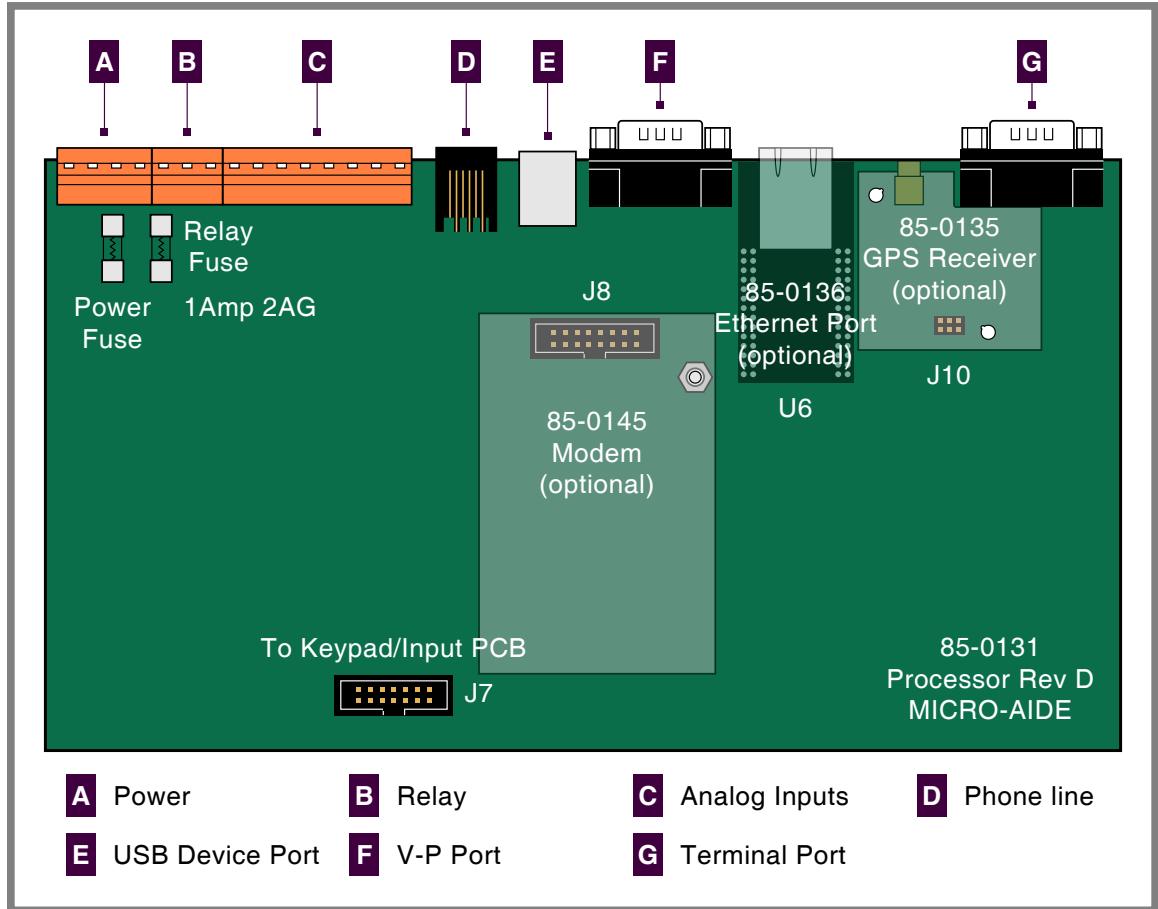

Figure 5: Processor PCB
There are two fuses mounted on the Processor PCB. The fuses are designed to protect the input power source and the contacts of the output relay. Each are rated at 1 A and conform to the 2AG size standard. Before replacing a fuse the cause of the blown fuse should be ascertained and cleared if possible. The fuses are illustrated in Figure 5 on page 77.
Generally, the GPS Receiver is ordered at the time the logger is purchased and is pre-installed at the factory. If the receiver was not previously ordered, it can be installed by the user. To install the receiver follow the steps listed in the following. The GPS Receiver PCB is illustrated in Figure 5 on page 77.
3. Locate the 6-pin female socket labeled "J10" near the top-right edge of the Processor PCB. The socket is illustrated in Figure 5 on page 77.
Generally, the modem PCB is ordered at the time the logger is purchased and is pre-installed at the factory. If the modem was not previously ordered, it can be installed by the user. To install the modem follow the steps listed in the following. The modem is illustrated in Figure 5 on page 77.
2. Locate the 16-pin female socket labeled "J8" near the center of the Processor PCB. The socket is illustrated in Figure 5 on page 77.
3. Locate the 56-pin female socket labeled "U6" along the upper edge of the Processor PCB. The socket is illustrated in Figure 5 on page 77.